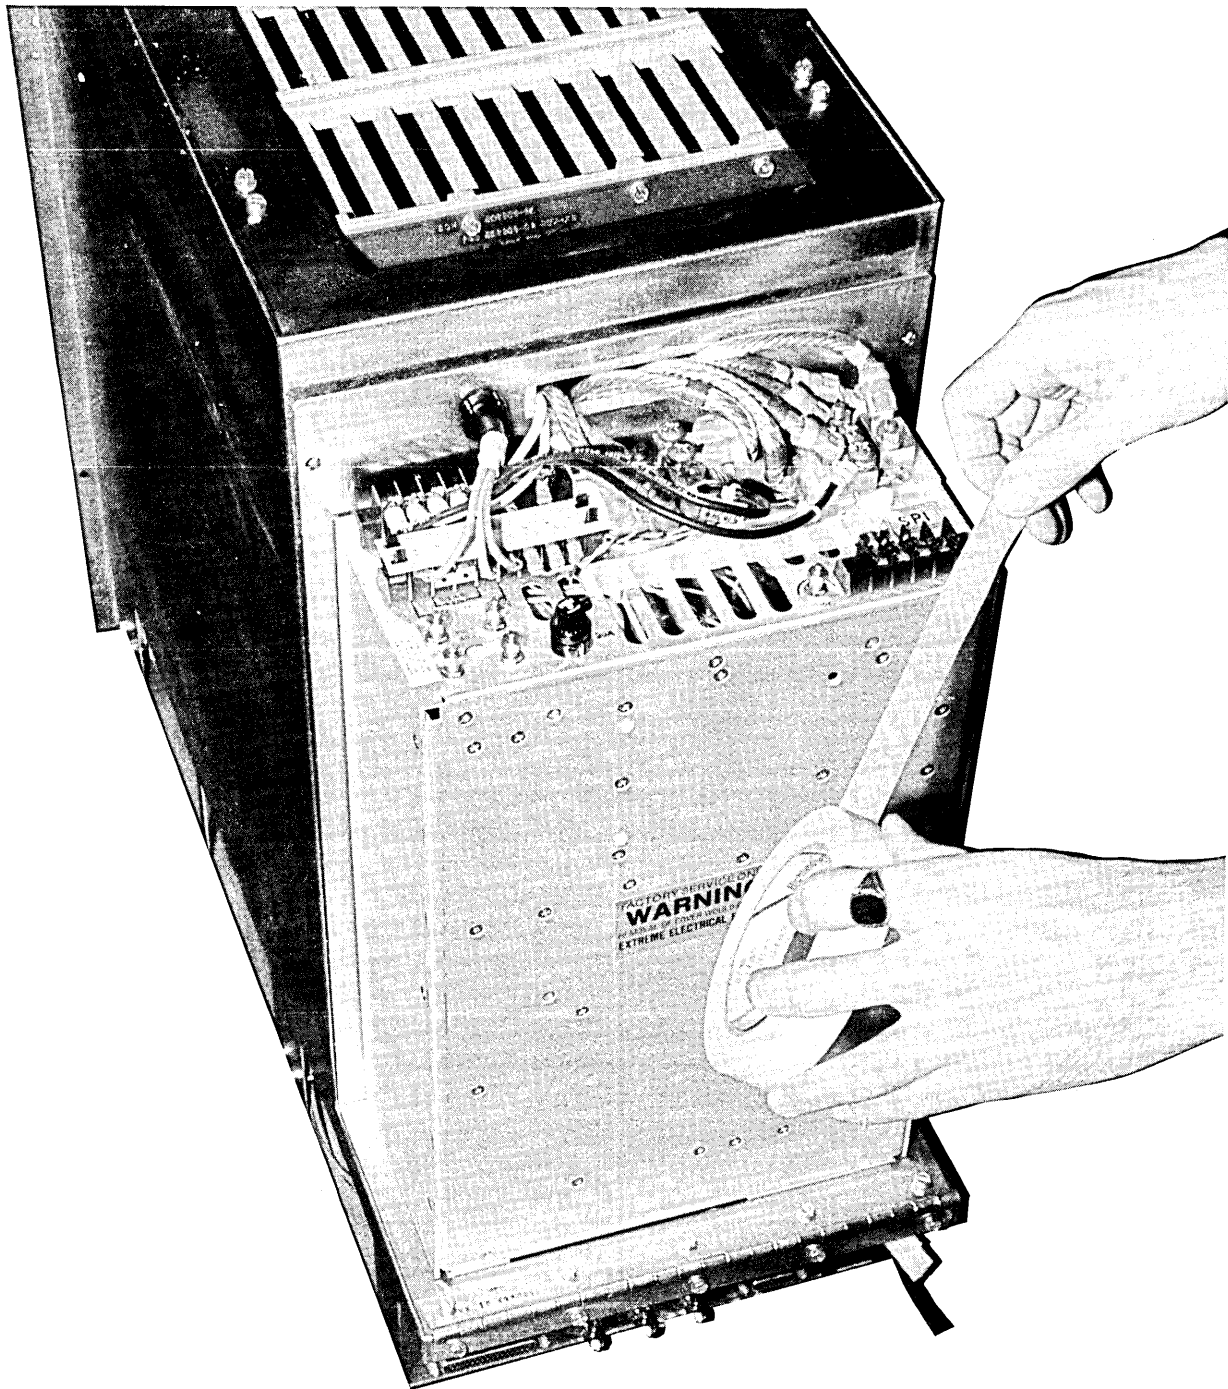

Figure 5-38. Taping Over Openings
6. See figure 5-38. To prevent hardware from accidentally falling into the power supply, apply tape to cover all openings in the top of the supply housing.